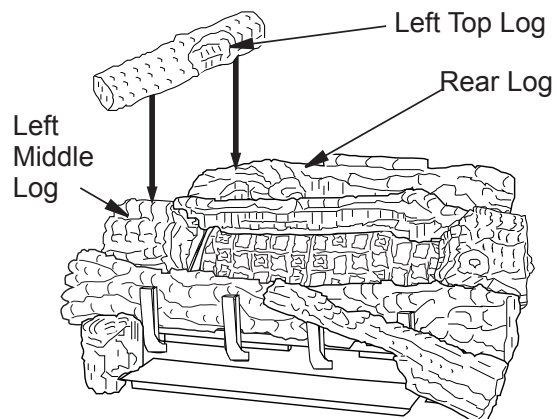

Figure 35 - Installing Left Top Log
9. Place the left top log onto the rear log and the left middle log. Make sure to place the projection on the bottom of the left top log into the recessed areas on the rear and left middle logs (see **Figure 35**).